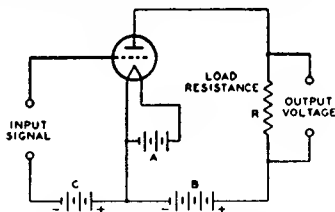

Fig. 35—Triode amplifier circuit.
The plate current flowing through the load resistance (R) of Fig. 35 causes a voltage drop which varies directly with the plate current. The ratio of this voltage variation produced in the load resistance to the input signal volt-